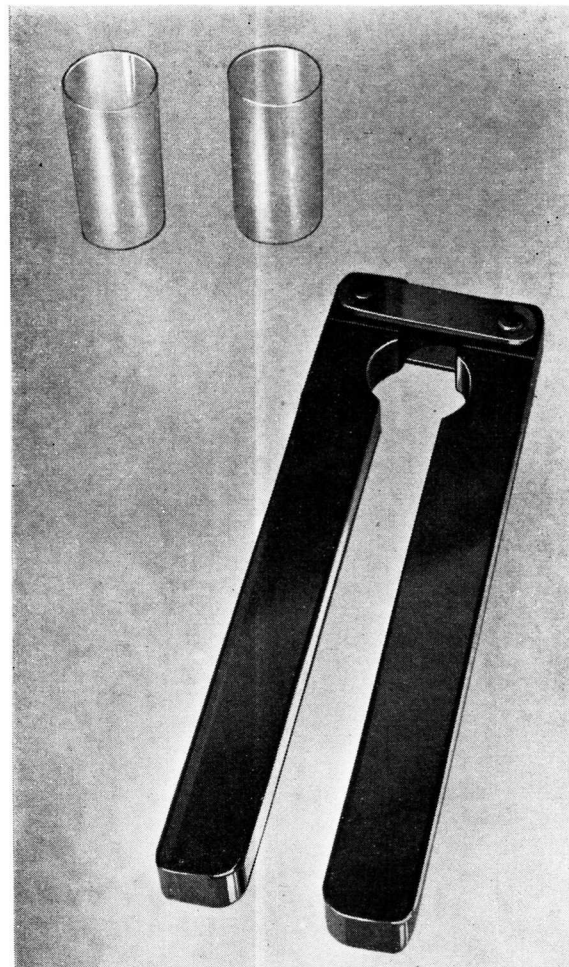

Fig. 6. Fibre grips and test tubes
9. The charged cylinder should be completely immersed, cap upwards, in a tank of clean water. The threads of the cap should be lightly brushed with a fine brush to remove any air bubbles. A glass test tube (*fig. 6*) completely filled with water should then be placed over the neck of the cylinder.